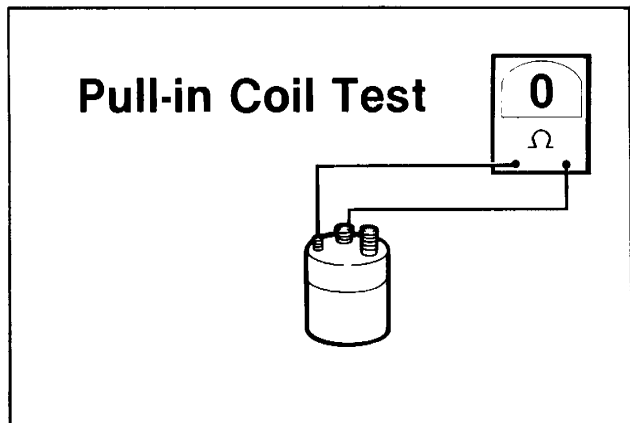

Figure 5-13. Pull-in Coil Test
2. See Figure 5-13. With an ohmmeter, check the pull-in coil between the small terminal and the short large terminal. There should be continuity, less than one ohm resistance. No meter reading or infinity indicates a broken or open circuit in the pull-in coil and the solenoid must be replaced.